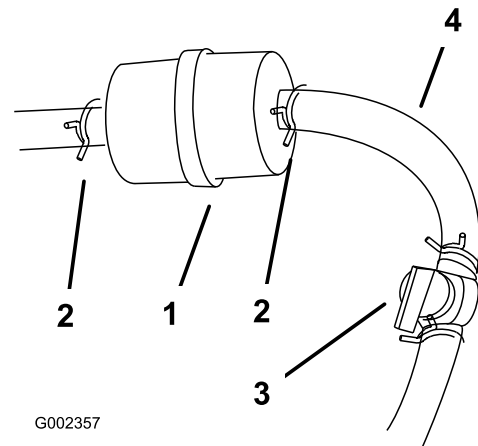

Figure 43
4. Close the fuel shutoff valve (Figure 43).
5. Squeeze the ends of the hose clamps together and slide them away from the filter (Figure 43).
7. Install a new filter and move the hose clamps close to the filter (Figure 43).
3. Close the fuel shutoff valve (Figure 43).
4. Loosen the hose clamp at the fuel filter and slide it up the fuel line away from the fuel filter (Figure 43).
5. Disconnect the fuel line from the fuel filter (Figure 43).
Note: Allow gasoline to drain into a fuel container can or drain pan (Figure 43).
7. Install the fuel line onto the fuel filter. Slide the hose clamp close to the fuel filter to secure the fuel line (Figure 43).